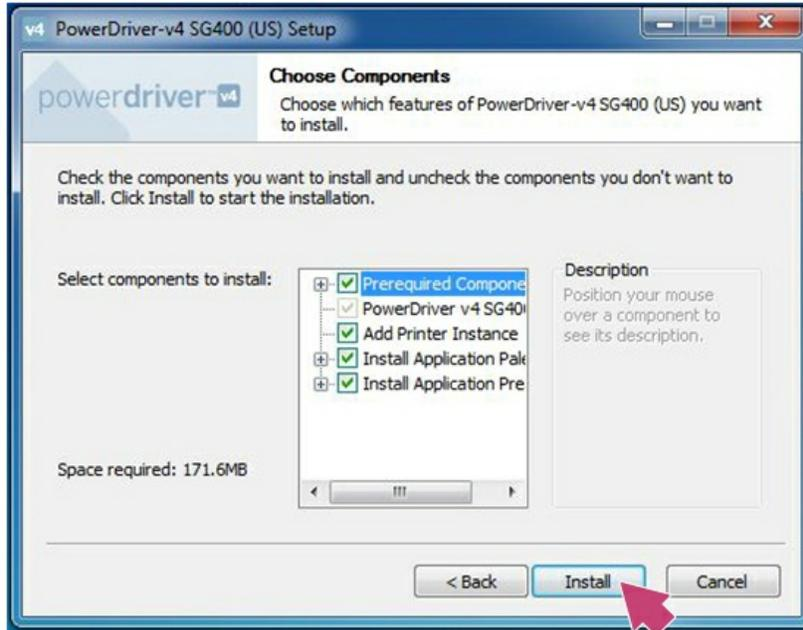

FIGURE 8
8. Click **Install** to allow PowerDriver to be installed into the correct destination folder. See Figure 8.
If the appropriate Sawgrass SG400 printer driver is already installed and what is displayed in Figure 8 does not appear, skip to step 19.